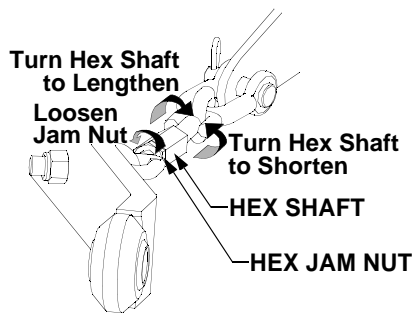

Figure 26
- The length of the hitch chains, attached to each lower hitch link, limit the side-to-side movement of the lower links. Loosen the jam nut and turn the chain's hex shaft as shown in Figure 26 to adjust the length of the hitch chain. Tighten the jam nut after adjusting.